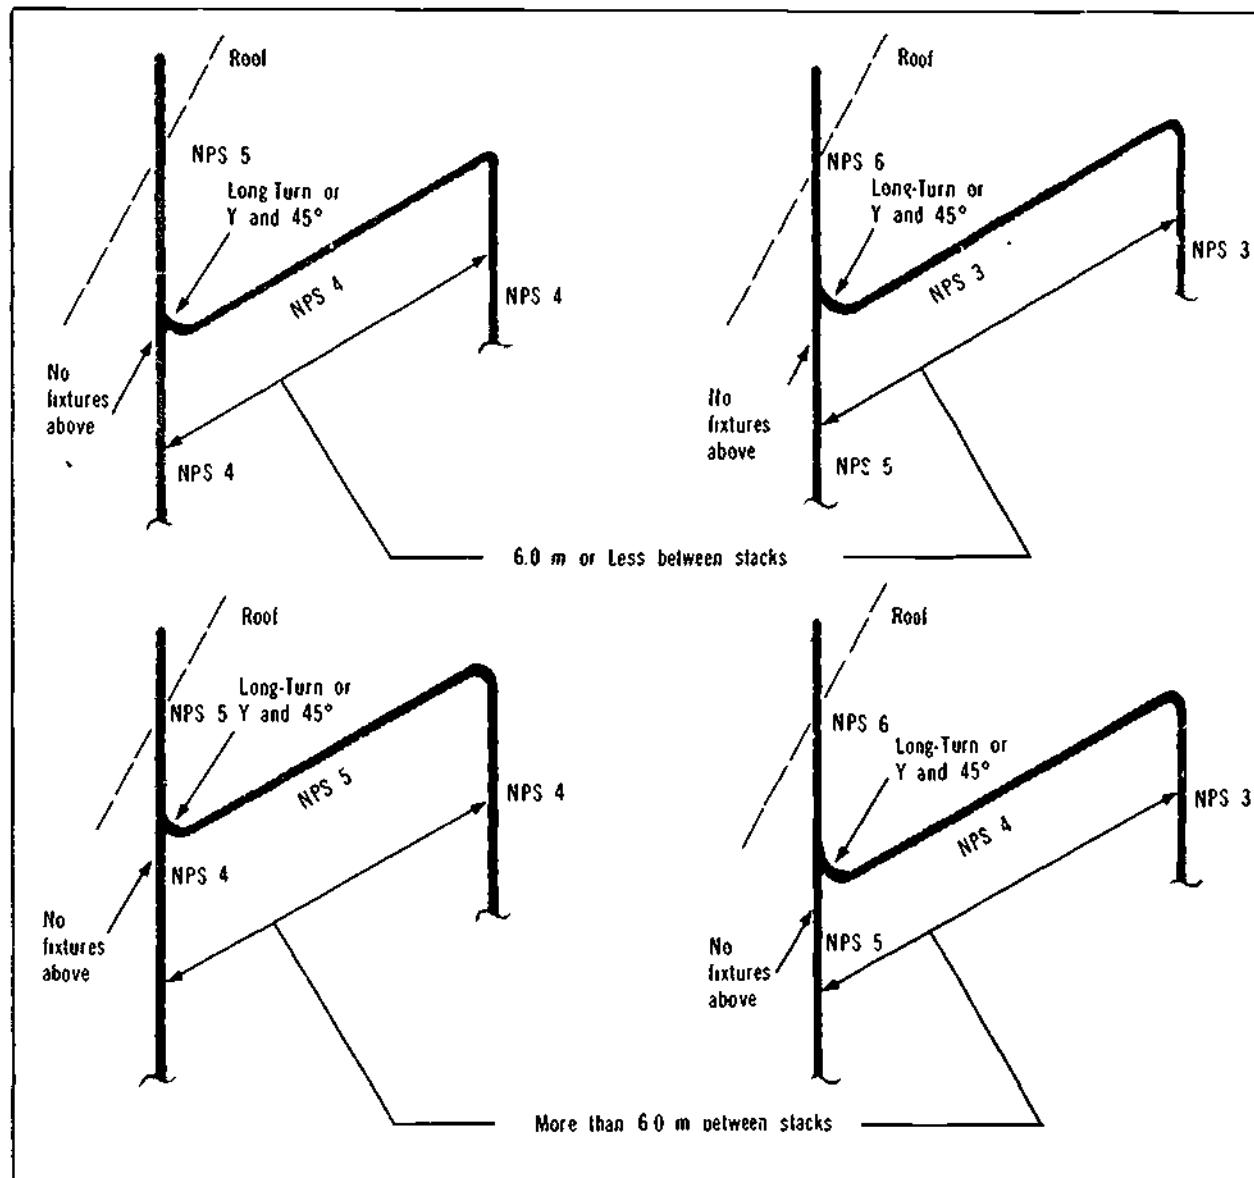

Figure 37-6. Tying Two Stacks Together
24. Two stacks can be tied together at the top above the highest fixture with only one stack extending through the roof, as shown in Figure 37-6. If the distance between the two stacks is 6 m or less, the horizontal tie-line (with a fall of 1 in 50) can be of the same diameter as the stack that terminates below the roof level.